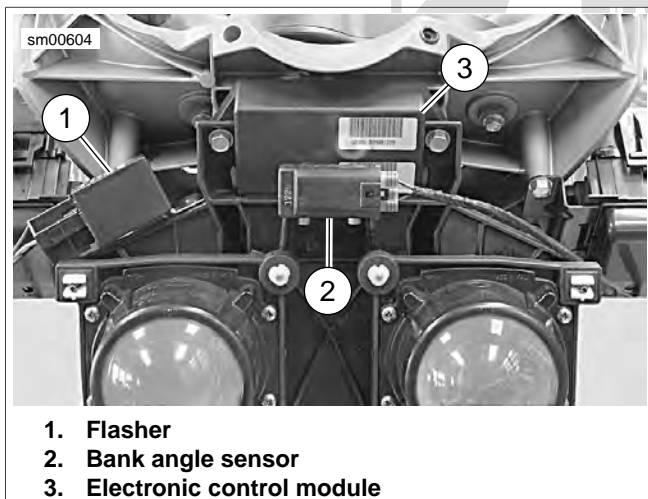
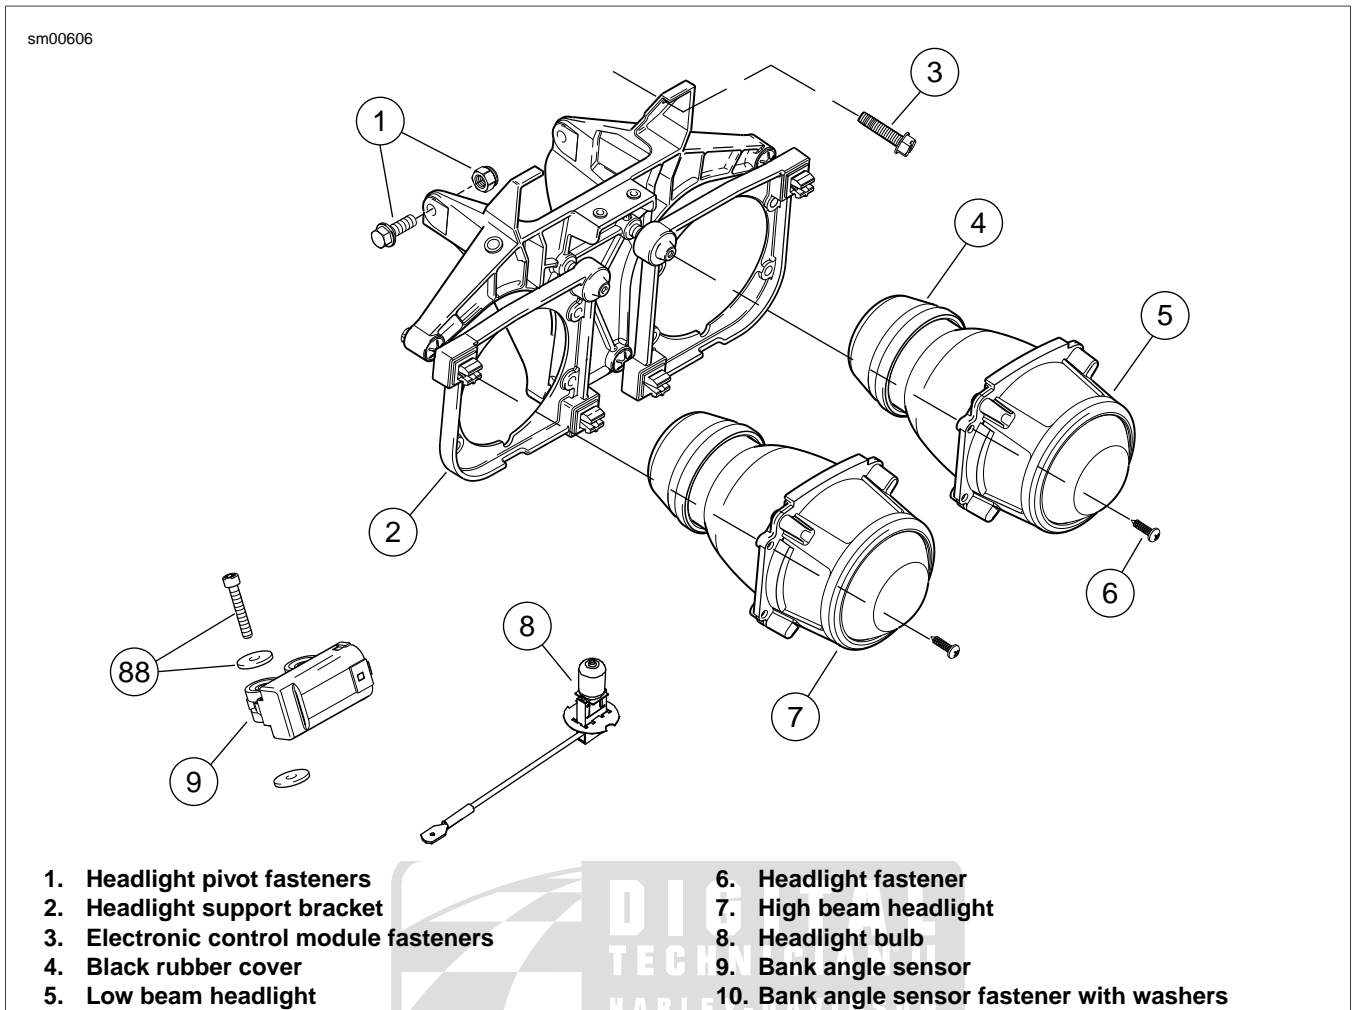

Figure 2-138. Headlamp Support Bracket: Firebolt
Figure 2-140. Headlight Support Bracket Assembly: Firebolt
4. See Figure 2-138. Disconnect flasher (1) and bank angle sensor (2). Remove electronic control module fasteners (3).
5. See Figure 2-138. Rotate headlamp support bracket.
- a. Loosen headlamp pivot fasteners (1).
- b. Rotate headlamp bracket (2) down.
6. See Figure 2-140. Disconnect headlamp connection.
1. See Figure 2-138. Remove bank angle sensor (2).
2. Remove flasher (1).
3. See Figure 2-140. Remove black rubber cover (4) from rear of headlights.
5. Disconnect headlight bulb (8) connector (white) from wire harness.
6. Remove headlights (5, 7) from headlight support bracket (2) by removing headlight fasteners (6).
1. See Figure 2-140. Align headlights (5, 7) into headlight support bracket (2). Tighten headlight fasteners (6) to 20-25 **in-lbs** (2.3-2.8 Nm).
2. Connect headlight bulb (8) connector (white) into wire harness.
4. Install black rubber cover (4).
5. See Figure 2-138. Install bank angle sensor (2). Tighten to 12-36 **in-lbs** (1.4-4 Nm).
6. Install flasher (1) and tighten to 36-60 **in-lbs** (4-7 Nm).
2. See Figure 2-140. Install headlight pivot fasteners (1) but do not tighten.
6. See Figure 2-140. Rotate headlight support bracket up (2) and tighten pivot fasteners (1) to 72-96 **in-lbs** (8-11 Nm).
7. See Figure 2-138. Install electronic control module (3).
8. See Figure 2-140. Align electronic control module and headlight support bracket with fairing support bracket.
10. Connect flasher (1) and bank angle sensor (2).